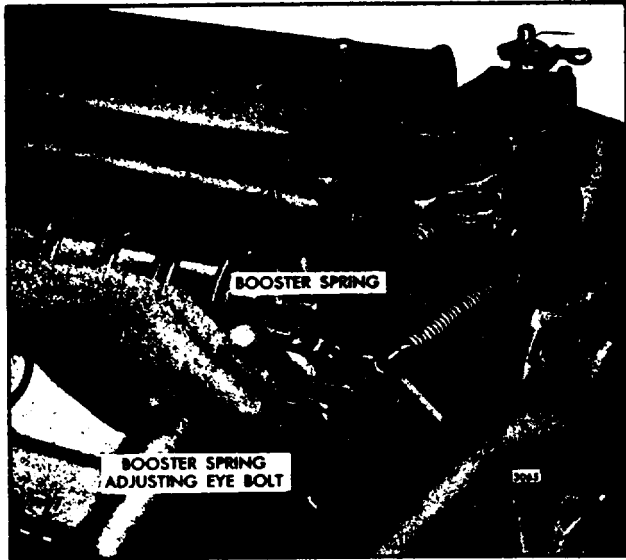

Fig. 9 - Adjusting Booster Spring
1. Refer to Fig. 9 and disconnect the booster spring and the stop lever retracting spring.
2. Refer to Fig. 9 and loosen the booster spring retaining nut on the speed control lever.